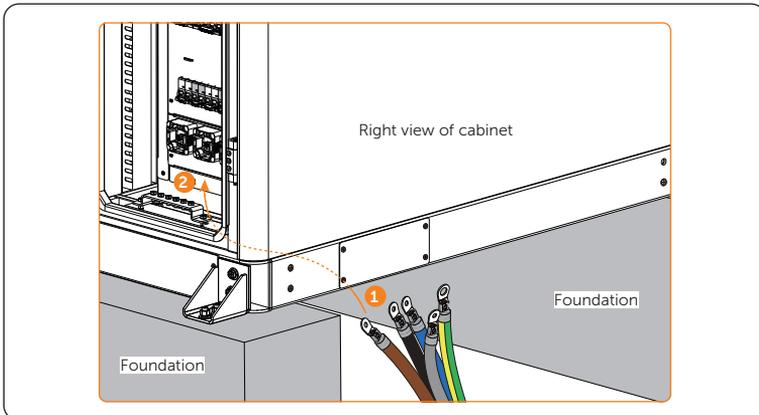

Figure 7-8 Running cable through the cabinet
Step 5: Run the cable through the cabinet. See Figure 7-8.